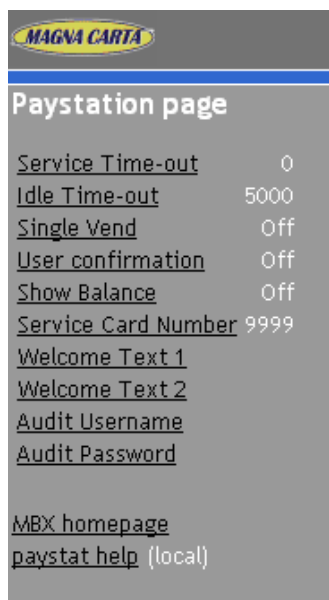

Figure 4-6 Paystation page of the Magnabox of a FacilityPro MiniPOS 3000
8. Enter your user name and password and click **OK**. (Default value = '**Demo**', '**Demo**'). You will see the paystation page of your Magnabox (Figure 4-6).